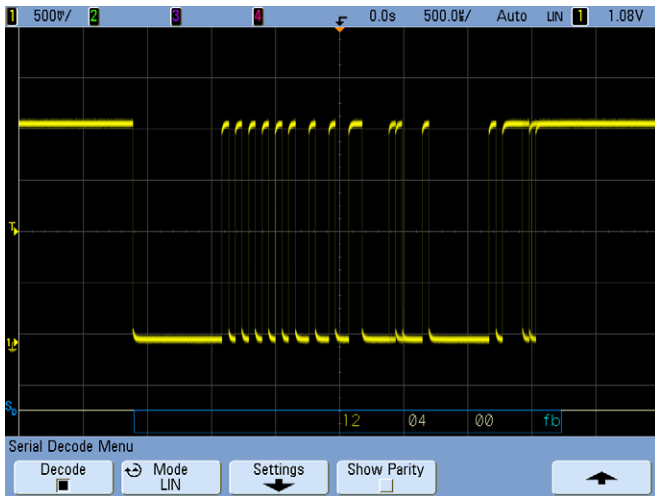

Figure 5 While triggering on LIN frame ID:12h, hardware -accelerated decoding shows infrequent checksum error
- 8 To turn on LIN protocol decoding, first select the **Acquire** menu on the scope's front panel, select the **Serial Decode** softkey, change **Mode** from CAN to LIN, and then press the **Decode** softkey. Your scope's display should now look similar to Figure 5.